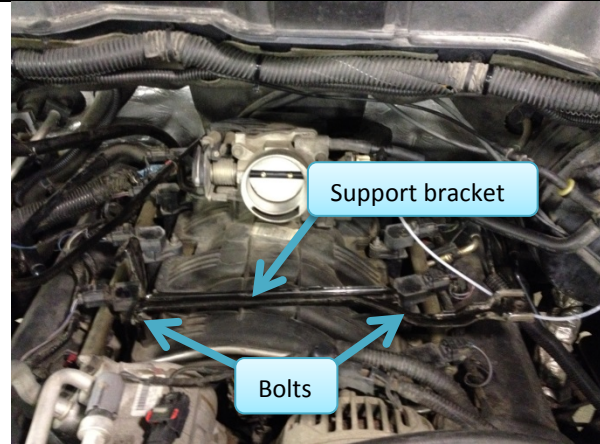

Figure 6: Upper intake support bracket.
- 5.1. Remove two 10 mm bolts (Figure 6)